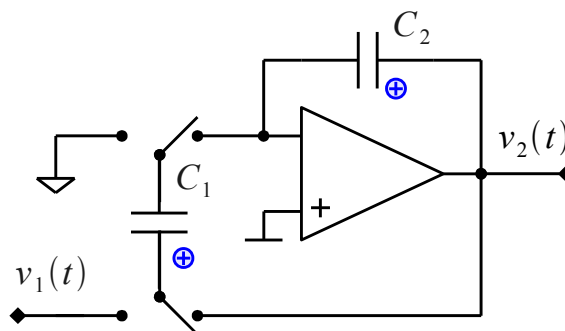

Figure 8.9.1: SC circuit.
- Derive the transfer function for the SC circuit in Figure 8.9.1.